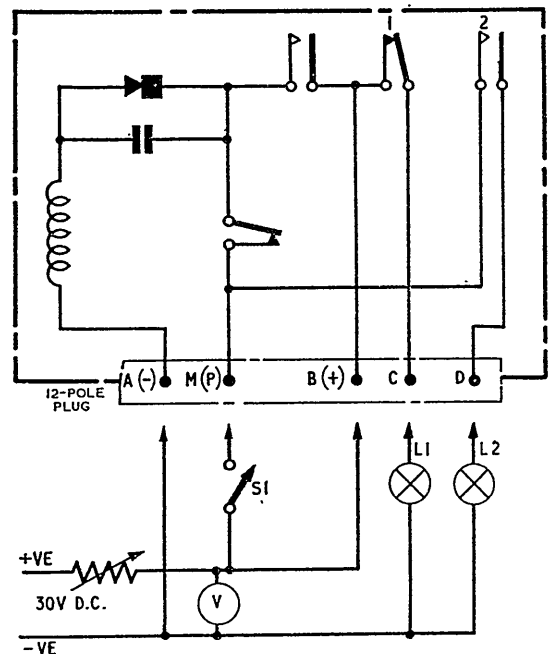

Fig. 1. Switch, Type D8158 circuit diagram and test circuit
1. This time delay switch has five pairs of circuit contacts, the circuit diagram (fig. 1) shows the switch internal wiring and the associated test circuit. The total motor run and circuit contact timing is detailed in para. 3.